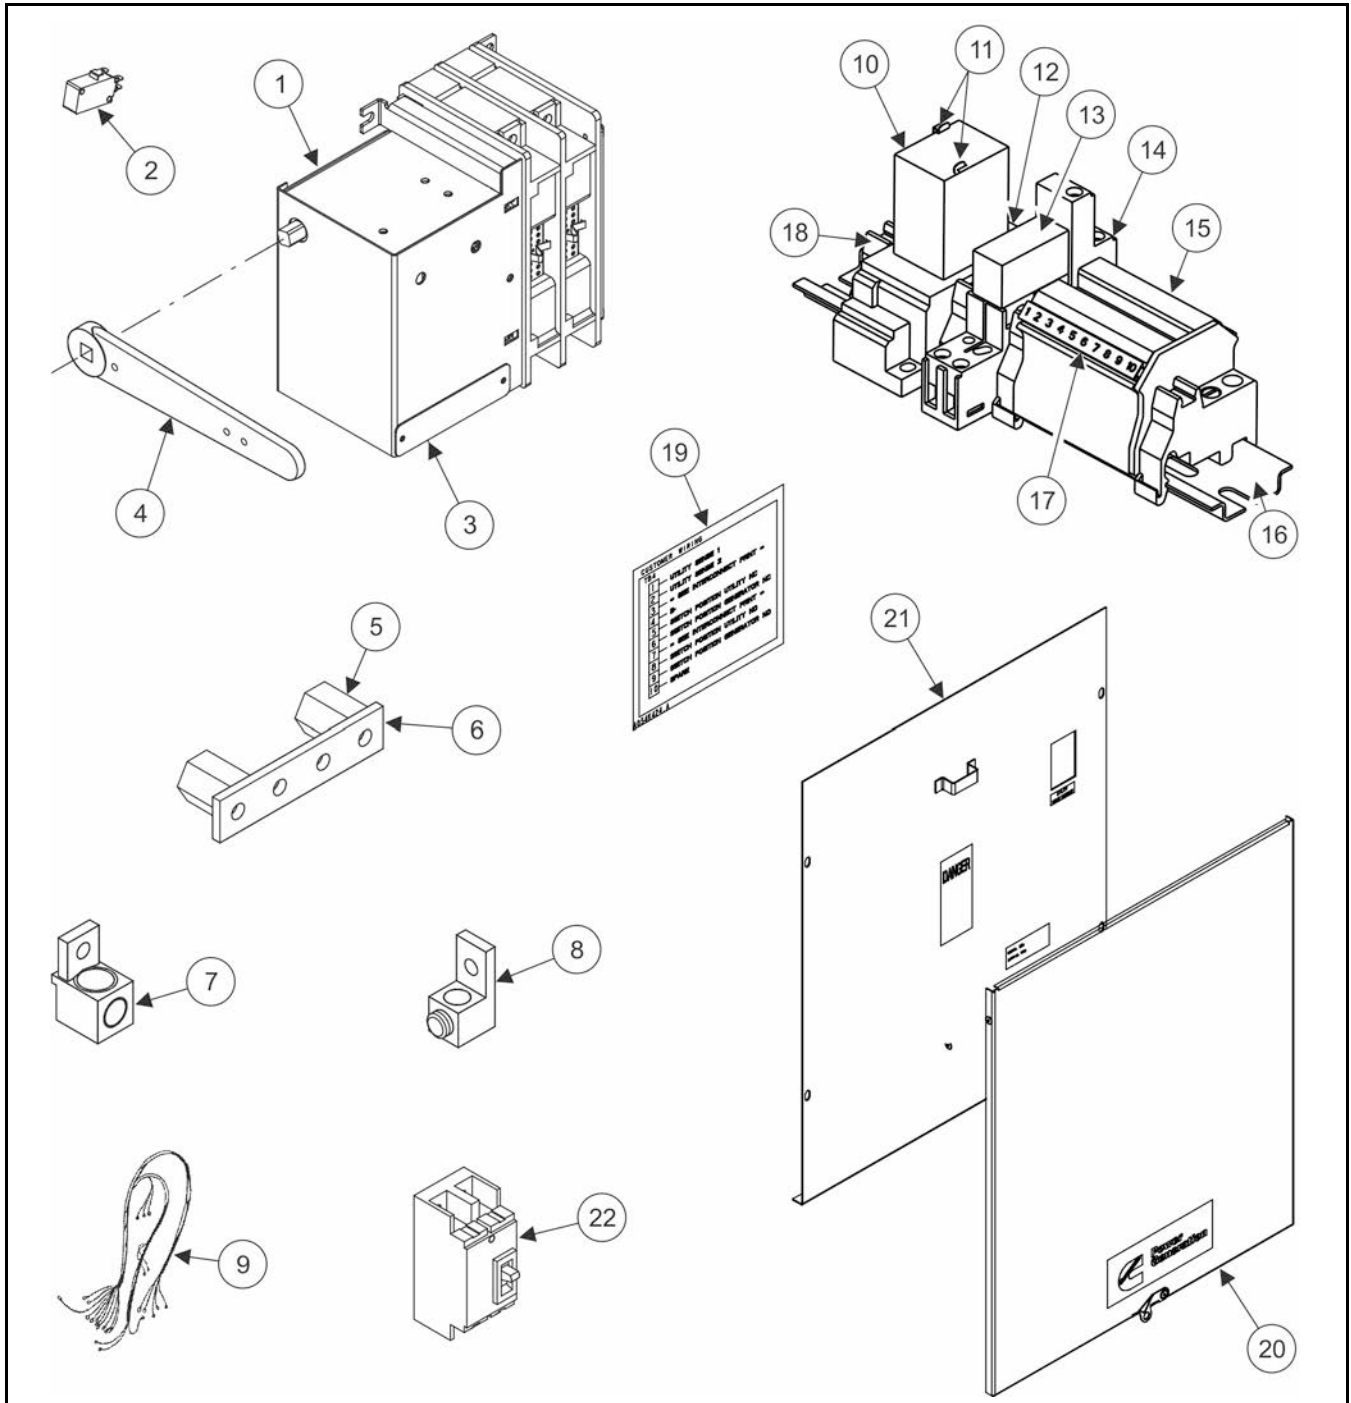

FIGURE 38. RA SERIES 100A/200A SERVICE ENTRANCE MODELS
- Figure 38. RA Series 100A/200A Service Entrance Models 72